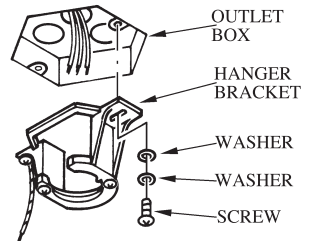

FIG.2
1. Securely attach the hanger bracket to the outlet box by washers and screws supplied (see Fig.2)